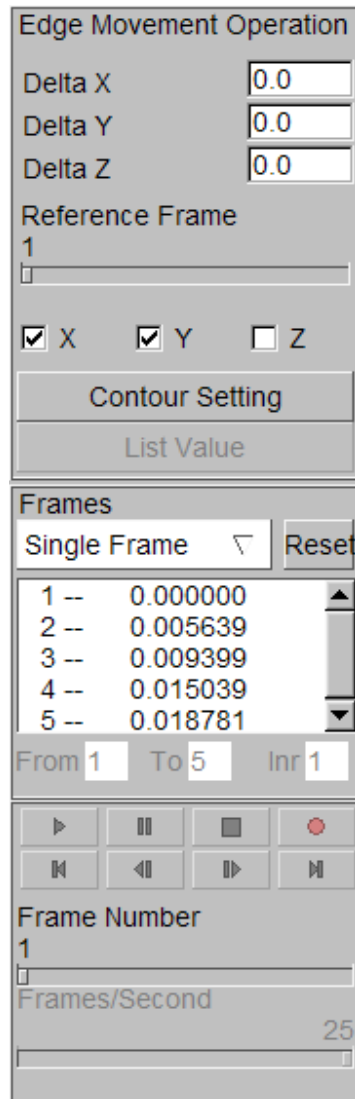

Fig 7.12.1 Edge movement control window
The function enables the user to animate movement of the blanks outer edge in real time. A vector is drawn to show the displacement (including X, Y, and Z orientation) at the boundary nodes of the blank. The contour bar, located on upper right corner of the graphic window, displays the corresponding contour magnitude of the displacement vectors. The location of the highest contour value in the model is labeled with an asterisk (*) and the lowest is labeled with a zero (0). The options for this function are shown in Figure 7.12.1: